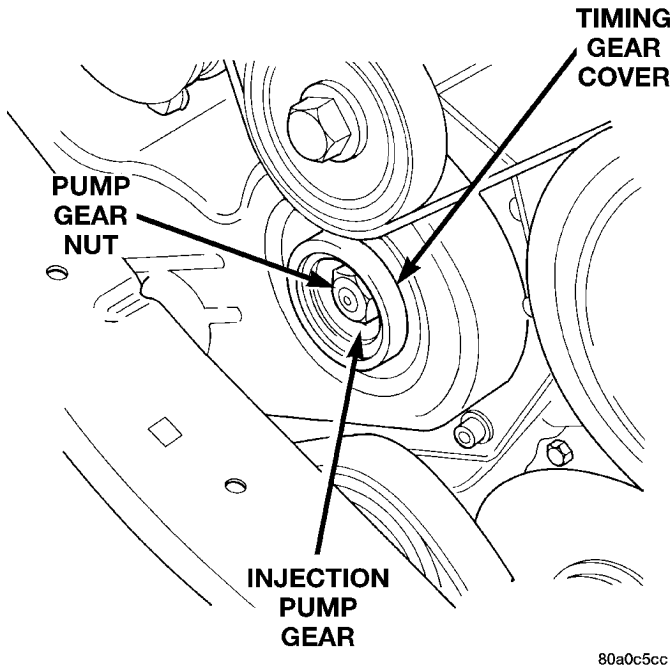

Fig. 35 Removing Pump Drive Gear Nut
(12) Remove injection pump drive gear nut (Fig. 35) and washer. **CAUTION:** Be very careful not to drop the washer into the timing gear cover.